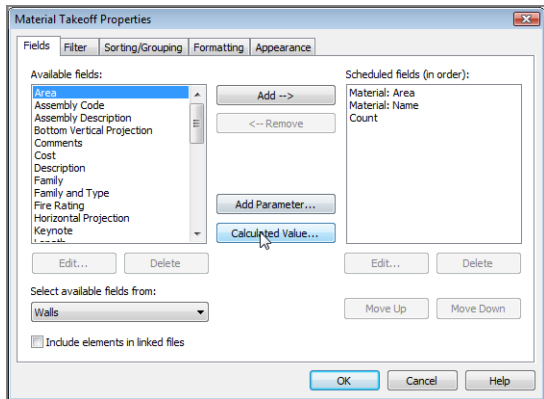

FIGURE 11.34: Click the Calculated Value button in the middle of the dialog.
3. On the Fields tab in the Material Takeoff Properties dialog, click the Calculated Value button, as shown in Figure 11.34.